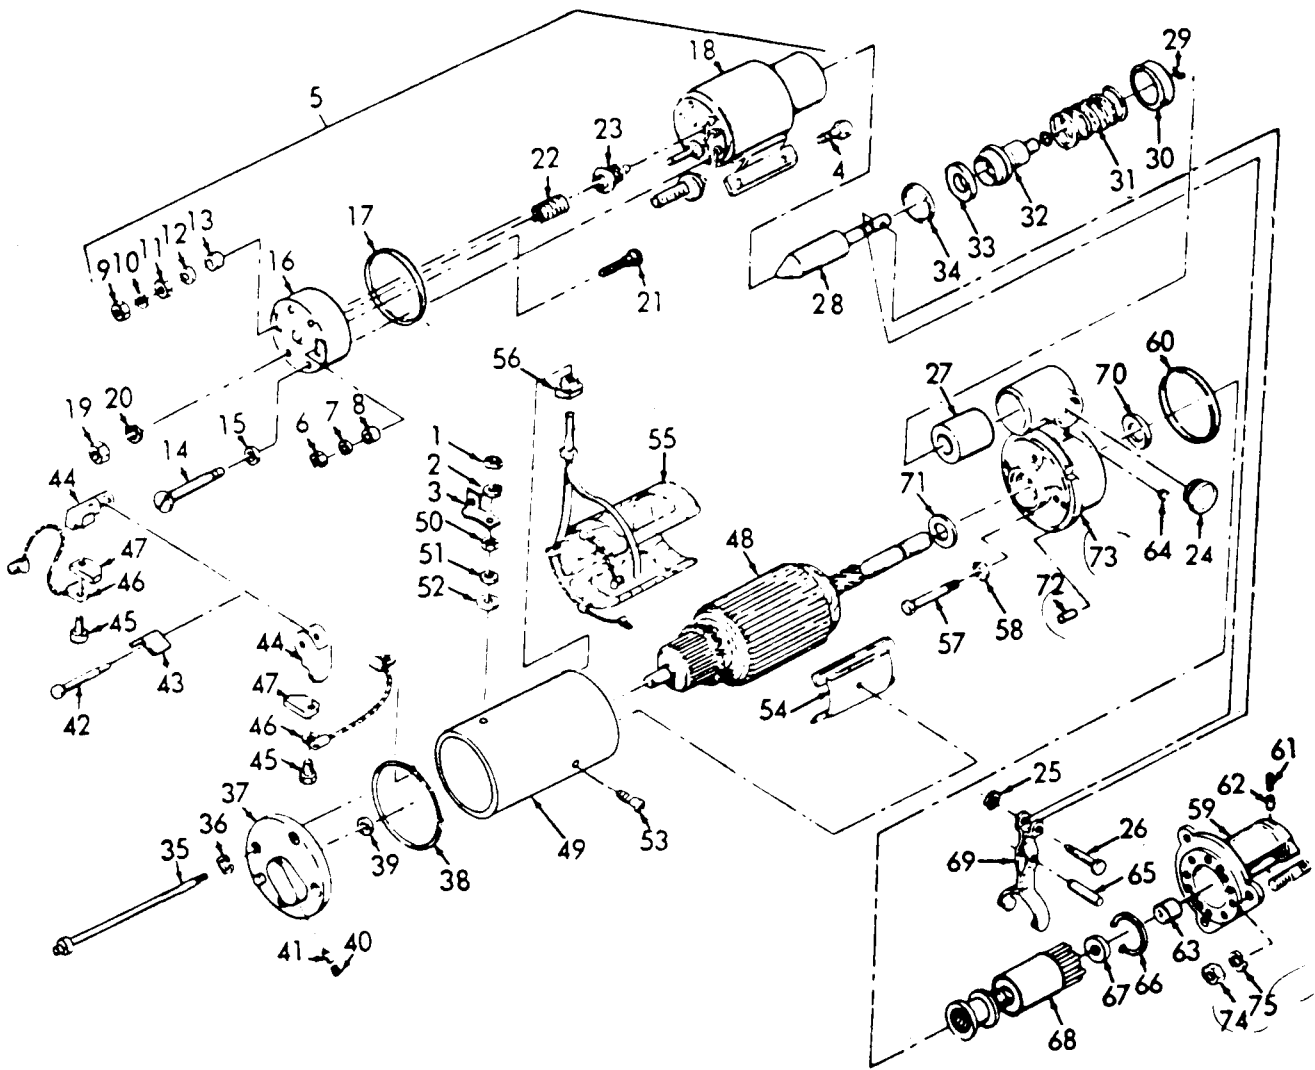

Figure 7-3. Starter, Disassembly and Assembly.
b. Disassembly (Refer to Figure 7-3).
- (1) Remove nut (1), lockwasher (2), and terminal lead (3) .
- (2) Remove screws (4) to remove solenoid assembly (5) from starter assembly.
- (3) Remove nut (6), flat washer (7), and insulating washer (8).
- (4) Remove nut (9), lockwasher (10), nut (11), flat washer (12), and insulating washer (13).
- (5) Remove screws (14) and flat washers (15) to remove cover (16) and gasket (17) from frame assembly (18). Discard gasket.
- (6) Remove nuts (19) and lockwashers (20) to remove terminal stud (21).
- (7) Remove spring (22) and contact assembly (23).
- (8) Remove plug (24), retaining ring (25), pin (26), and boot clamp (27 ) to remove plunger (28).
- (9) Remove retaining ring (29) to remove spring retainer (30), spring (31), boot (32), spring retainer (33), and retaining ring (34) from plunger (28).
- (10) Remove bolts (35) and lockwashers (36) to remove commutator end frame (37), packing (38), and spacer washer (39).
## LEGEND FOR FIGURE 7-3:
LEGEND FOR FIGURE 7-3 (Continued):